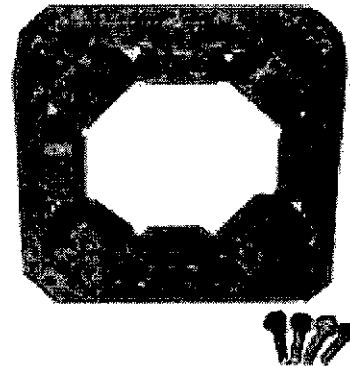

Figure 6-32
1. Clean dust and dirt from the exciter stator winding. (Figure 6-32.) (See section 5.)